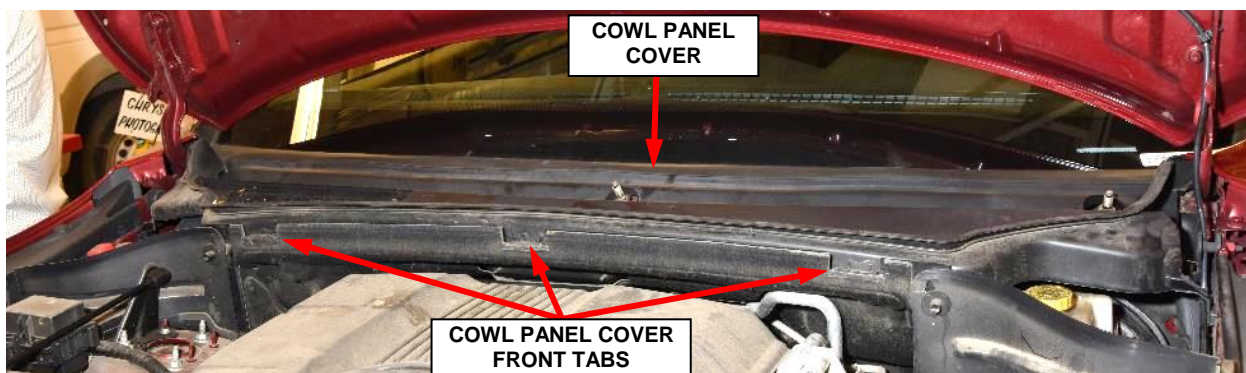

Figure 6 – Cowl Panel Cover
8. Release the three front tabs then remove and save the cowl panel cover (Figure 6).